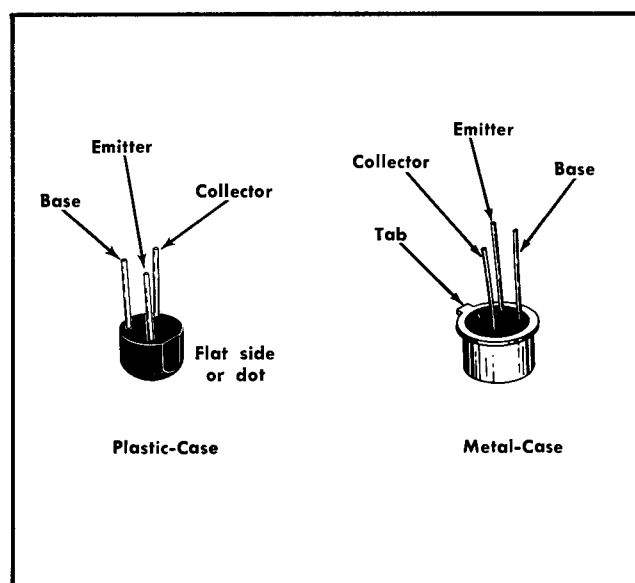

Fig. 4-1. Lead configuration for board-mounted transistors.
**Transistor Replacement.** Cut the leads of a replacement transistor to the same length as the transistor removed and bend the leads as necessary. The lead configurations of the transistors used in the Type S-3 are shown in Fig. 4-1. The field-effect transistor, Q31, which is located in the probe body, has leads soldered to the circuit board.